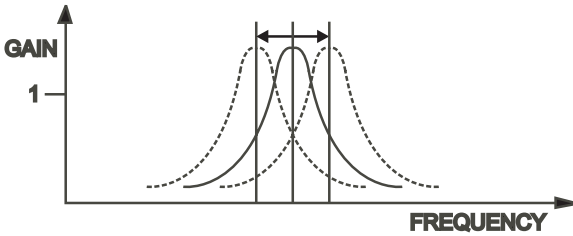

Figure 8 - Resonant Frequency shift
7) The Filters' resonant frequencies can be shifted up and down by a small amount to create an effect similar to phasing. Figure 8 shows a graph that portrays the results of shifting a resonant filter's center frequency. In the MuRF this can be done two ways, depending on the position of the BANK slider switch. The switch, located below the PATTERN selector switch is labeled BANK A or B/LFO. When the slider is in the "A" position, the filters' center frequencies can be shifted by an expression pedal (such as the Moog EP-1) or CV plugged into the LFO/SWEEP Jack.